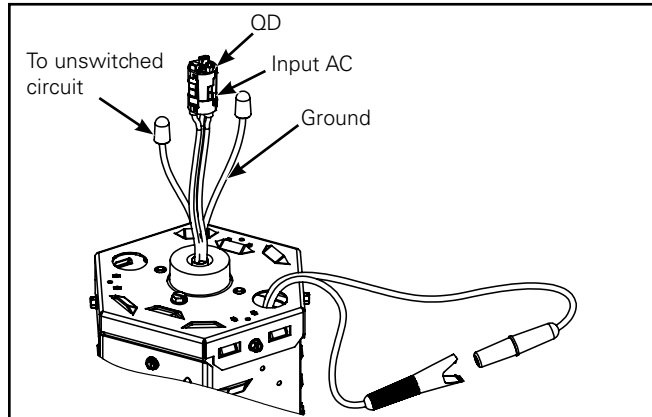

Figure 6.
3. Wire input AC to the fixture, including the unswitched circuit for the battery pack. Wire according to code. (Figure 6).